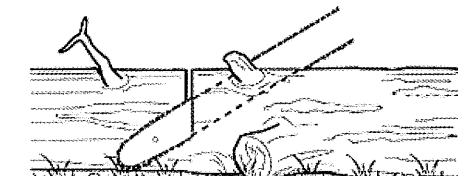

Fig. 37
1. Follow the simple directions for easy cutting. When the log is supported along its entire length (Fig. 37), it is cut from the top (overbuck).